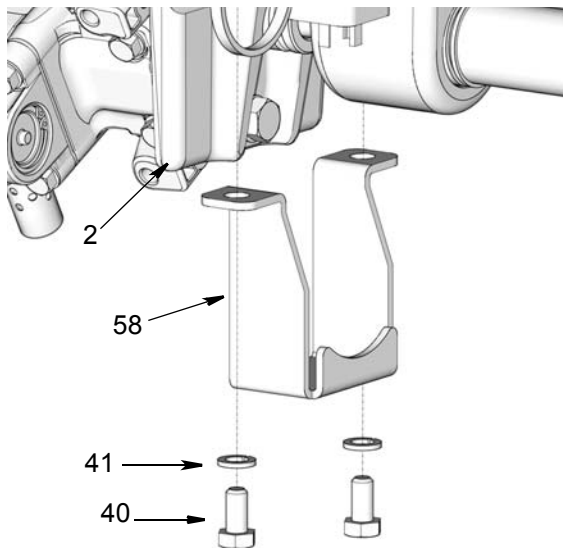

FIG. 13
3. Remove screws, (40), washers (41) and finger guard (58) from pump base (2) (FIG. 13).